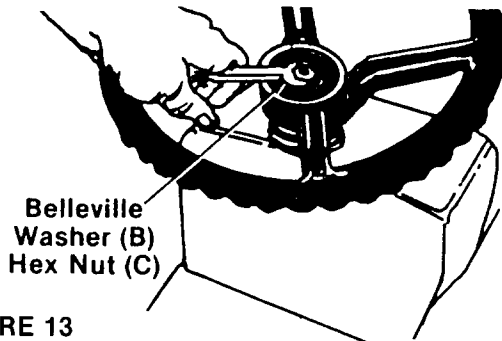

FIGURE 13
5. Secure with Belleville washer (B) (cupped side against the steering wheel) and hex nut (C). See figure 13.
6. Press the steering wheel cap (A) on the steering wheel by hand.